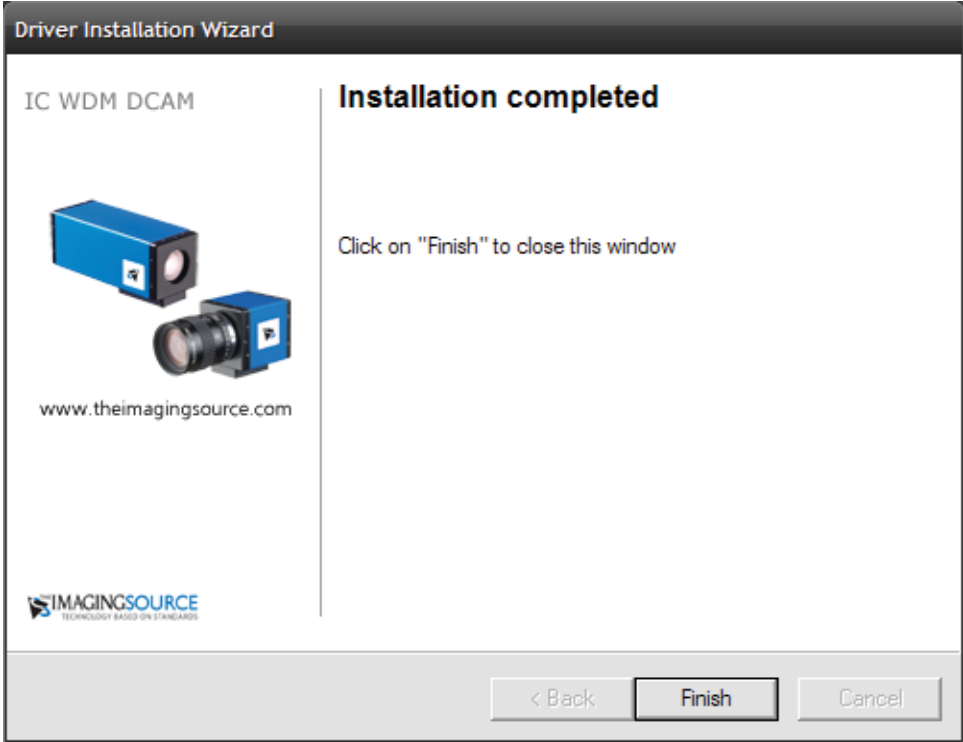

Fig. 5-21
10. When installation completes, a message window informing on success of software installation will appear (Fig. 5-21). Click the **Finish** button.